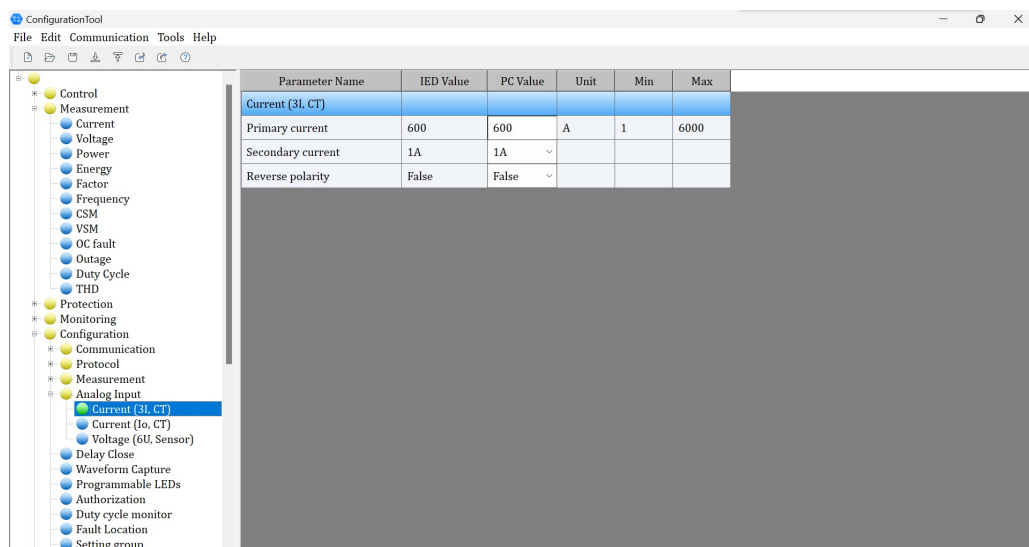

Figure 29 Analog input on configuration tool
4. Click the “Analog input” and parameter settings window will popup where it is possible to edit. (Figure 29)